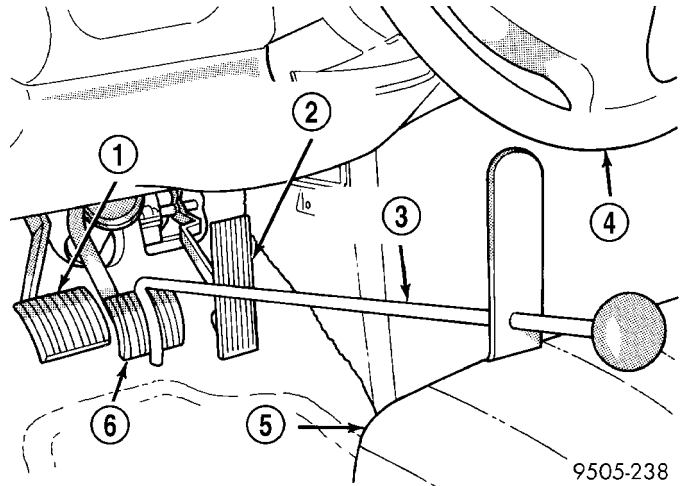
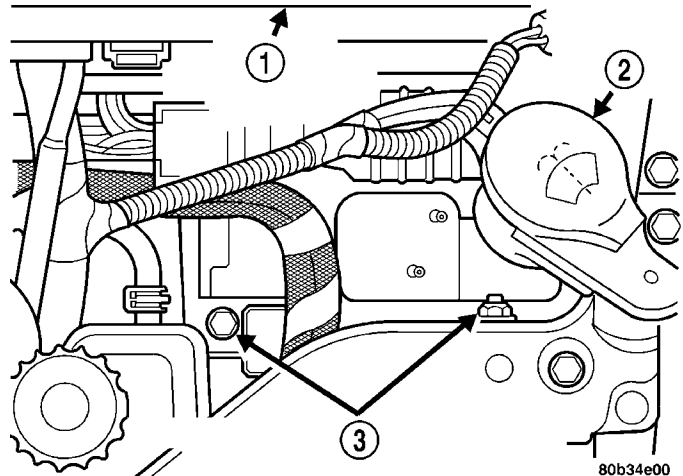

Fig. 15 Brake Pedal Holding Tool Installed
Fig. 16 Transmission Controller Mounting
(3) Using a brake pedal positioning tool such as shown in (Fig. 15) depress brake pedal past its first 1 inch of travel and hold in this position. This will isolate the master cylinder reservoir from the brake hydraulic system, not allowing the brake fluid to drain out of the reservoir.
(4) Remove the bolt and 2 nuts securing the speed control servo to vehicle. Disconnect the wire harness connector from speed control servo. Leaving the cable attached to the speed control servo, move it aside, out of the way.
(5) Remove the screw attaching the washer bottle filler neck to the vehicle. Move neck to the side without loosening the filler tube (Fig. 16).
(6) Remove the nut and bolt holding the transmission controller and bracket to vehicle (Fig. 16). Lift transmission controller up and move away from mounting position.
(7) Using Mopar® Brake Parts Cleaner or an equivalent, thoroughly clean all surfaces of the HCU. Also, thoroughly clean all brake tube to HCU connections.
(8) Reinstall the transmission controller (Fig. 16).
(9) Reattach the washer bottle filler neck to the radiator support.
(10) Reinstall the speed control servo to its mounting studs and radiator support.
(11) Remove brake pedal positioning tool.
(12) Install the remote ground cable onto the ground stud located on left shock tower. Install the remote ground cable attaching nut and tighten to a torque of 28 N·m (250 in. lbs.).